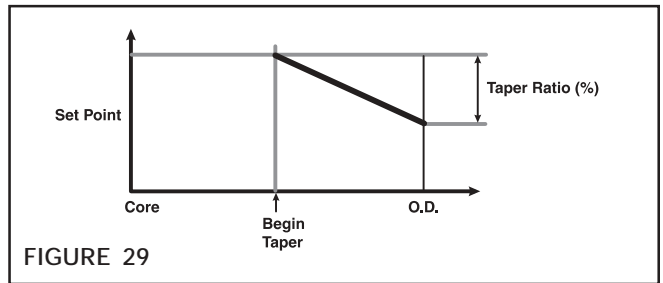

FIGURE 29
1. Supply voltage proportional to the minimum diameter at which taper is to begin (See Figure 29) to terminals 23 and 24 (See Remote Roll Diameter Input in the Electrical Connections section).